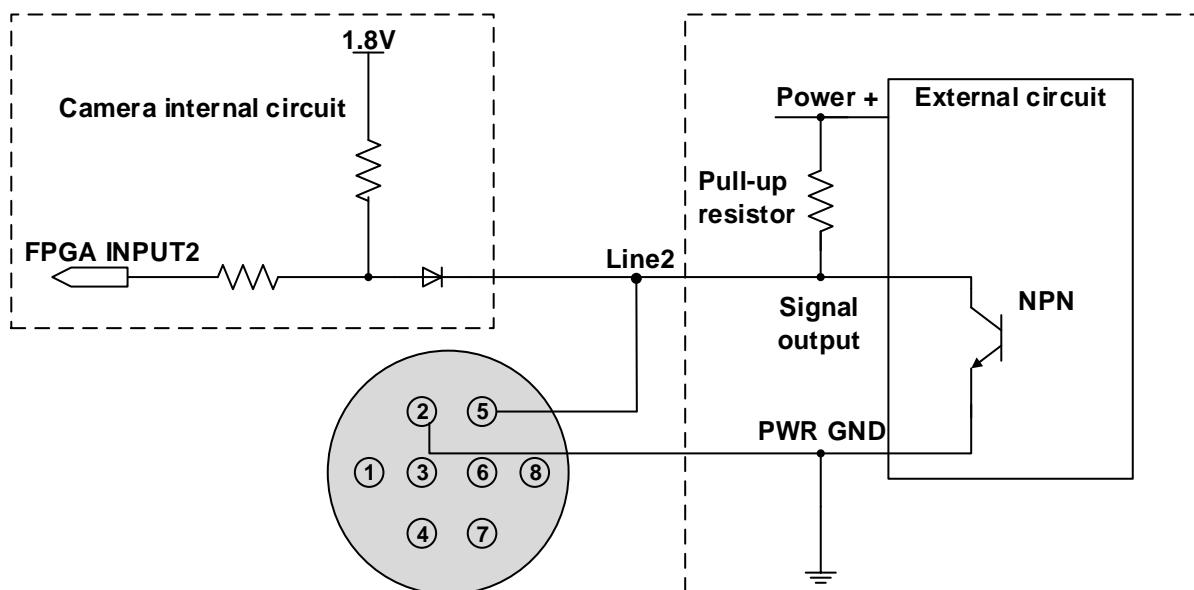
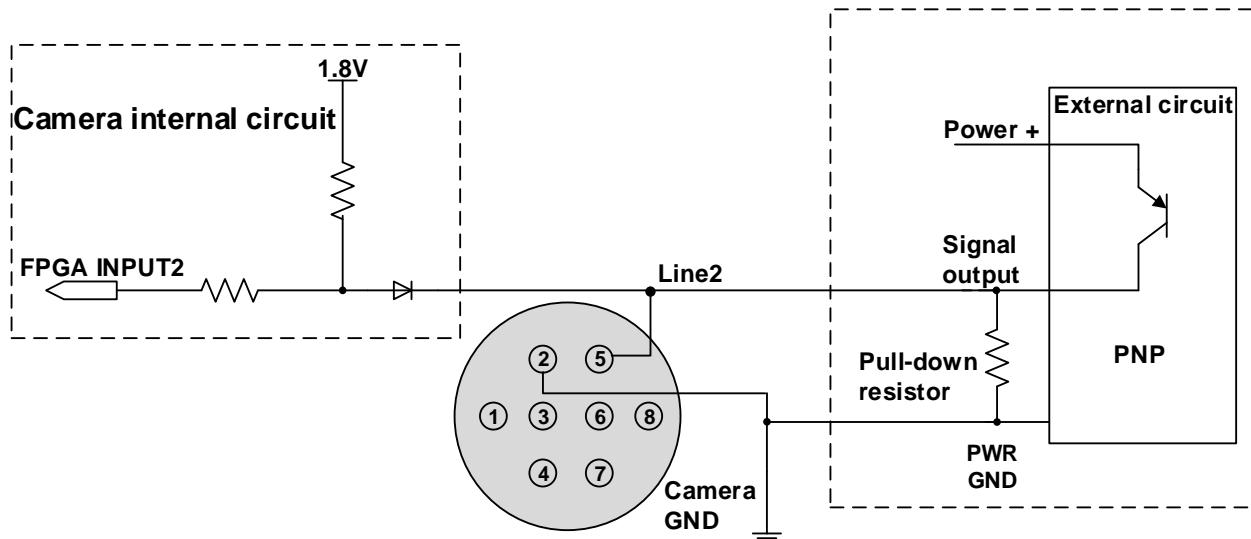

Figure 7-18 NPN photoelectric sensor connected to Line2 input circuit
Figure 7-19 PNP photoelectric sensor connected to Line2 input circuit
- When input of Line2 is high, input current is lower than 100 μ A. When input of Line2 is low, input current is lower than -1mA. When Line2 is configured as input. The connection method between them and NPN and PNP photoelectric sensors is shown in Figure 7-18 and Figure 7-19. The relationship between the pull-up resistor value and the external input voltage is shown in Table 7-3